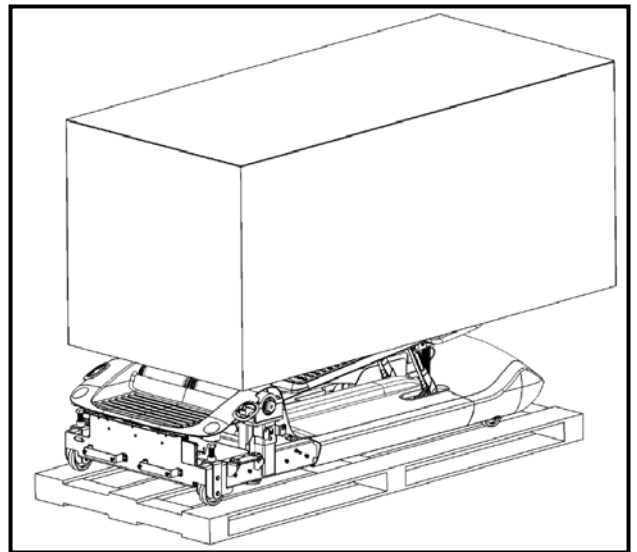

Fig. 2
2. Cut all straps to remove the cardboard packaging along with any protective wrapping to expose the palletized TreadClimber® base (Fig. 2).